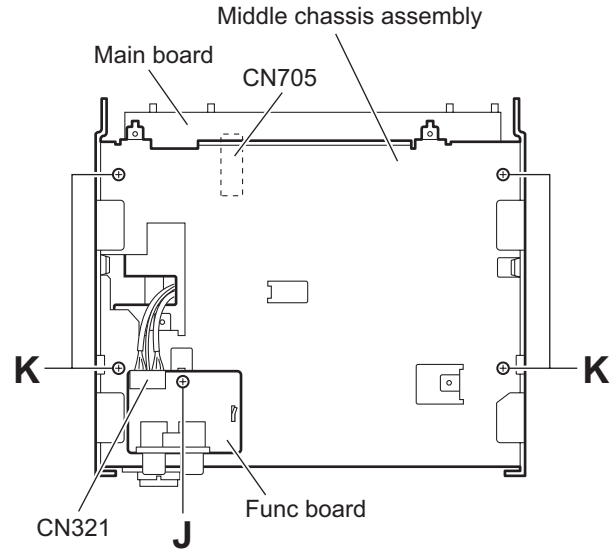

Fig.8
3.1.7 Removing the func board (See Fig.8)
3.1.8 Removing the middle chassis assembly (See Fig.8)